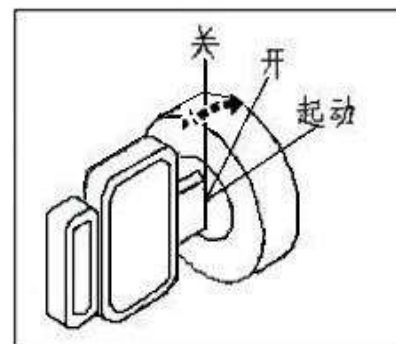

Fig 3-8
4. Put the switch at “Open” plase(fig 3-8), wait 15 seconds, start atonce.